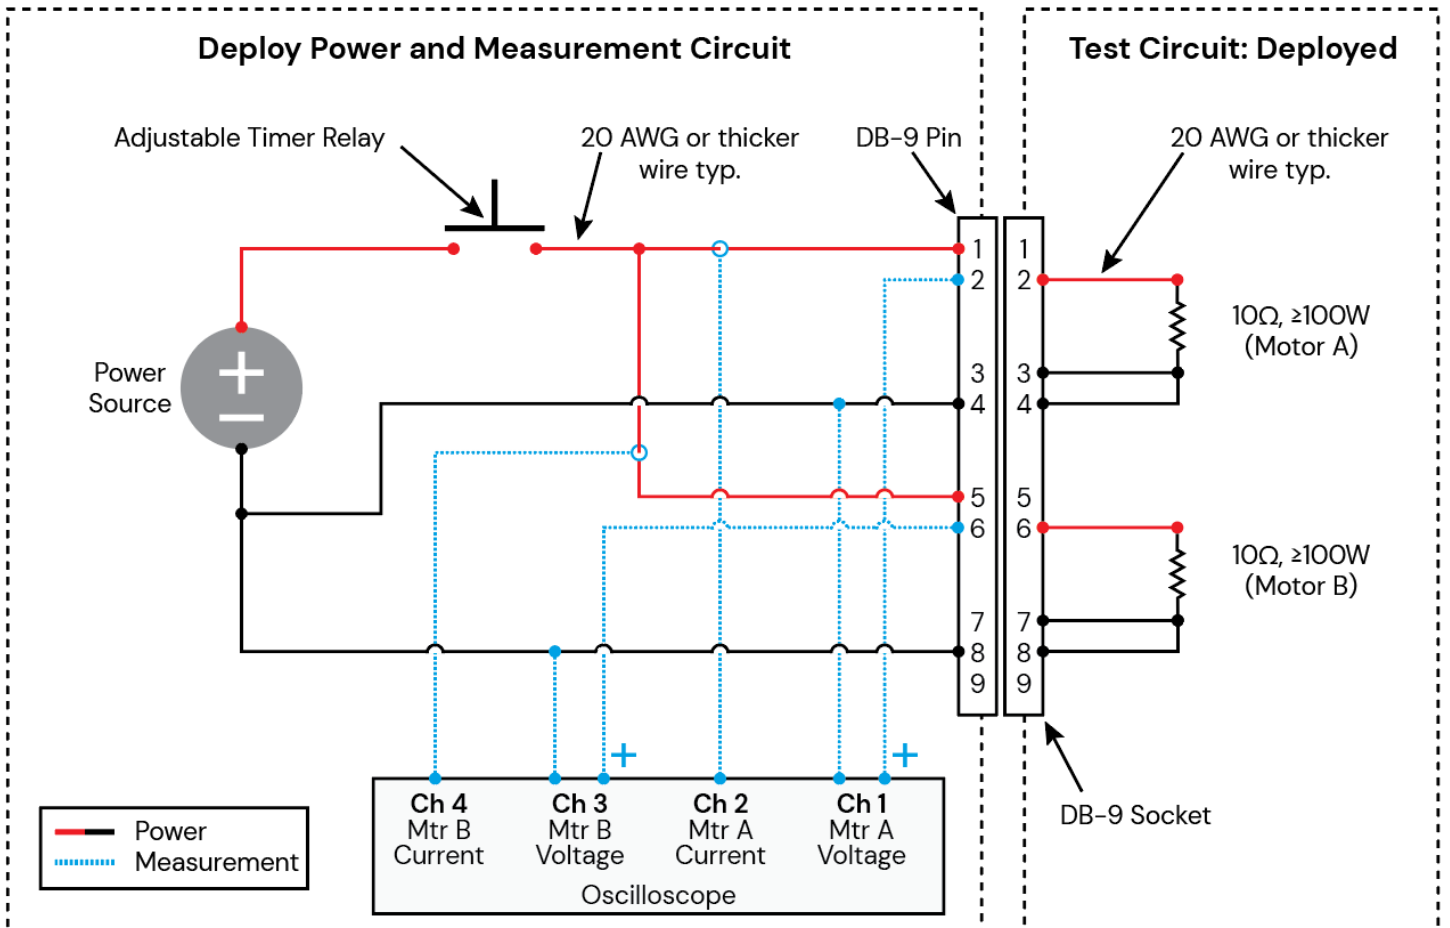

Figure 11-3: Deploy test circuit #3
11.3.1	Set up the Test Circuit: Deployed per Figure 11-3.